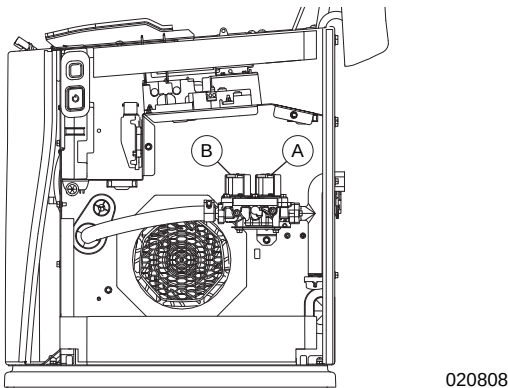

Figure 10-21. Gas Pressure Test Points
4. See Figure 10-21 for the fuel pressure test point on the fuel shut off valves. Static fuel pressure can be checked at Port 1 (A) and running pressure can be checked at Port 2 (B).